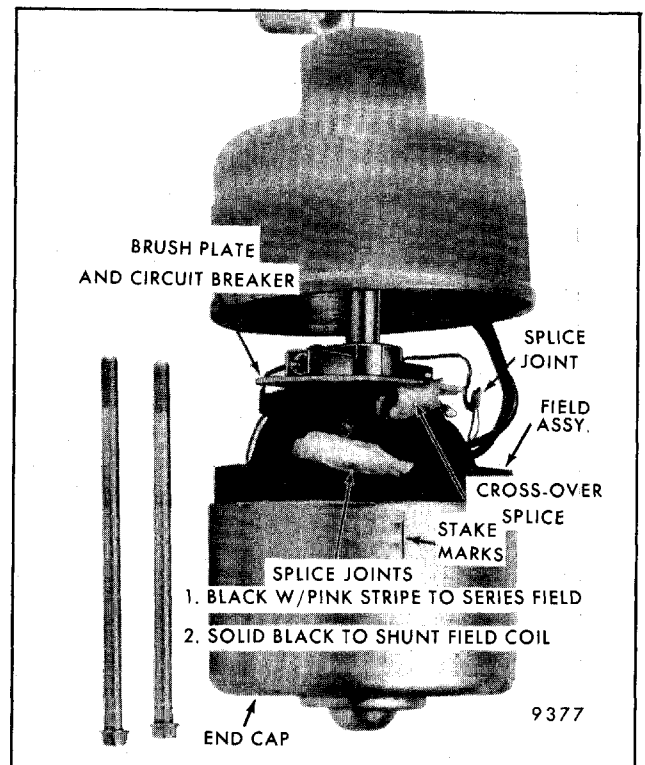

Fig. 2-64-Field and End Cap Assembly
3. Feed exposed excess length of motor leads through the casting grommet and carefully back the case and field assembly plus the armature away from the casting (Fig. 2-64).